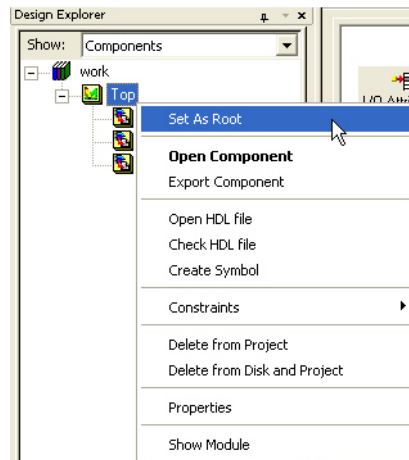

Figure 1-26 • Set As Root in Hierarchy Tab
8. Confirm that **Top** is set as root in the Project Manager Project Flow window. If it is not, right-click **Top** in the **Hierarchy** tab and choose **Set as Root** (Figure 1-26).